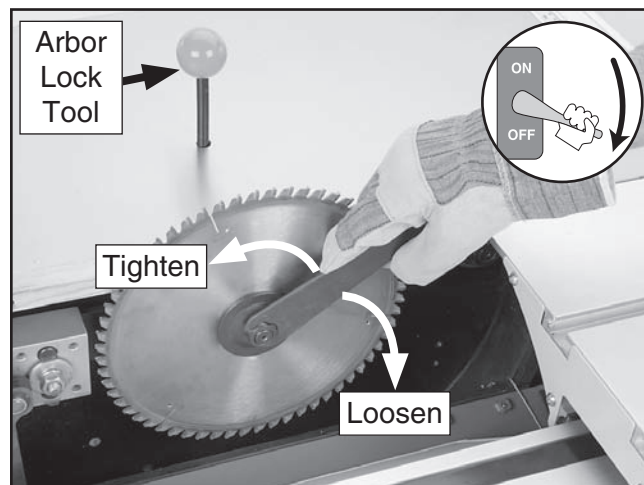

Figure 50. Replacing the main blade.
6. Use the arbor wrenches to remove the arbor nut and arbor flange, as shown in **Figure 50**, then pull the old blade off the arbor. *The arbor nut has left-hand threads and loosens by turning clockwise.*